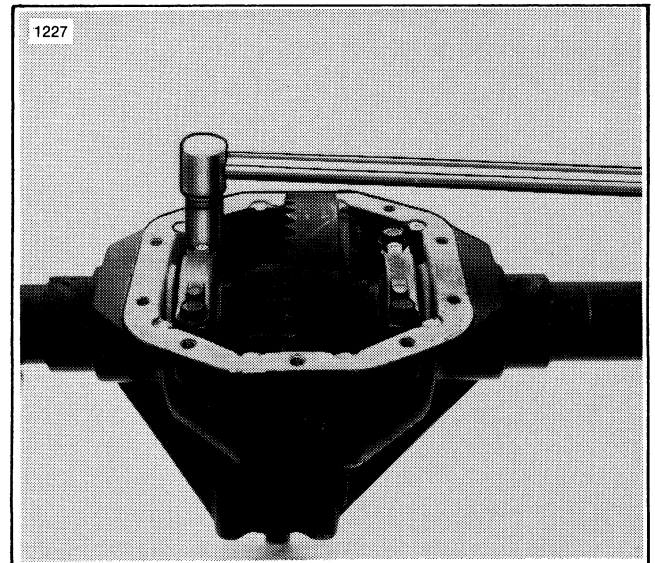

Figure 3-28. Torque Bearing Cap Bolts
housing. Install bearing cap bolts (4) and tighten to 35-45 ft-lbs (5.5 kgm) torque (Figure 3-28).
15. Check ring and pinion gear backlash as described in Step 6 of disassembly. High backlash is corrected by moving ring gear closer to pinion gear. Low backlash is corrected by moving ring gear away from pinion gear. Backlash adjustment is made by switching shims (11) from one side of differential case to the other.